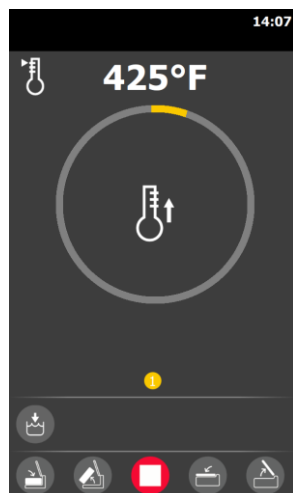

Figure 23
- If the first stage is a Timed cooking stage, a PREHEAT screen is displayed displaying a progress wheel for temperature to reach the Target Temp (see **Figure 23**).